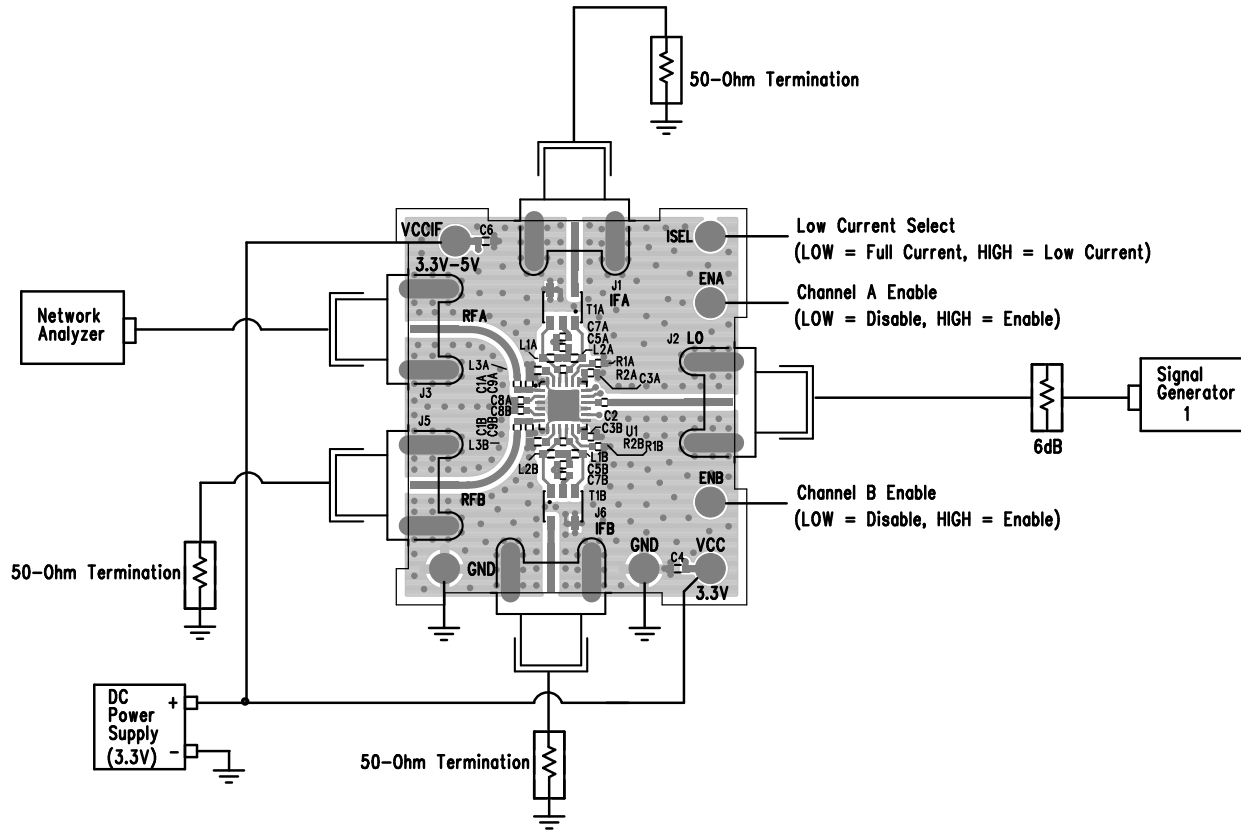
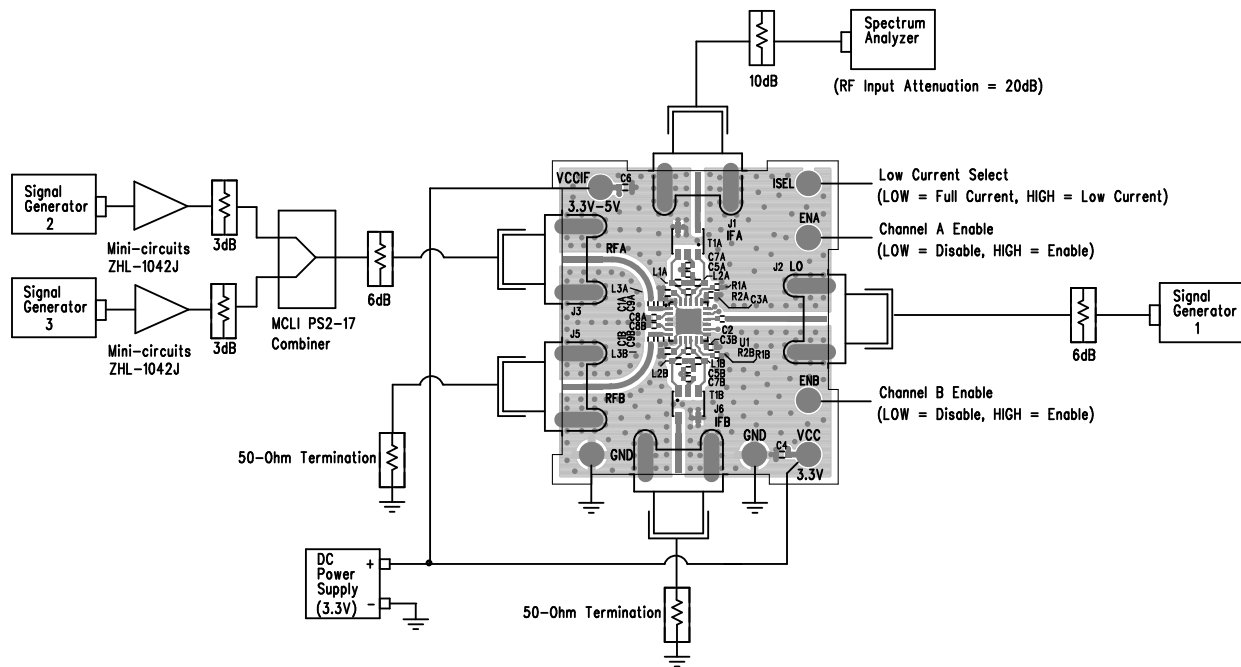

Figure 5. Proper Equipment Setup for Return Loss Measurements
Figure 6. Proper Equipment Setup for RF Performance Measurements
The LTC5592 is a dual high dynamic range downconverting mixer IC with very high input 3rd order intercept. Accuracy of its performance measurement is highly dependent on equipment setup and measurement technique. The recommended measurement setups are presented in Figure 5, Figure 6, and Figure 7. The following precautions should be observed:
The LTC5592 consists of high linearity passive double-balanced mixer cores and IF buffer amplifiers. Due to the bidirectional nature of all passive mixers the $\text{LO}\pm\text{IF}$ mixing products, also referred to as pseudo-image spurs, are always present at the RF input, typically at a level 12dB below the RF input signal. Mismatched impedances at the pseudo-image spur frequencies, such as when filters are used for SSB NF measurements, can significantly impact the linearity and noise figure measurements. To avoid interference from the pseudo-image spurs, terminate the RF input port with an isolator, diplexer, or attenuator. In the recommended measurement setups presented in Figure 6 and Figure 7, the 6dB attenuator pad at the demonstration circuit's RF input serves this purpose.
Demonstration circuit 1710A-C is easy to set up to evaluate the performance of the LTC5592. Refer to Figure 5, Figure 6, and Figure 7 for proper equipment connections. The following procedures describe performing measurements on Mixer Channel A. The measurement procedures for Mixer Channel B are identical.
3. Connect all test equipment as shown in Figure 5 with the signal generator and the DC power supply turned off.
1. Connect all test equipment as shown in Figure 6 with the signal generators and the DC power supply turned off.